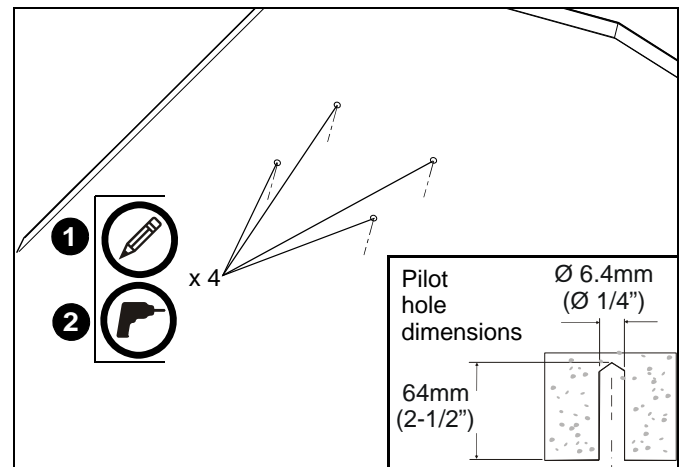

Figure 5
2. Drill four 1/4" (6.4mm) dia. pilot holes to a depth of 2-1/2" (64mm) deep. (See Figure 5)